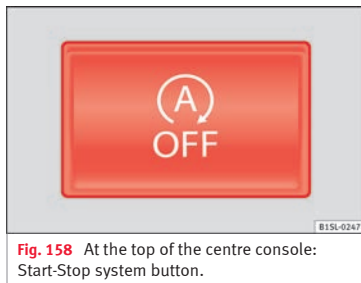

Fig. 158 At the top of the centre console: Start-Stop system button.
- Press the button  situated in the centre console » **Fig. 158.**